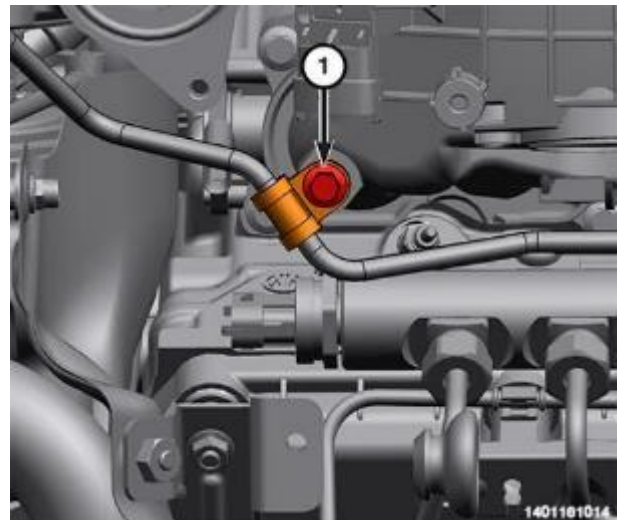

Figure 33 – Crossover Tube Bolt
- 64. Remove the bolt (1) securing the fuel crossover tube (Figure 33).